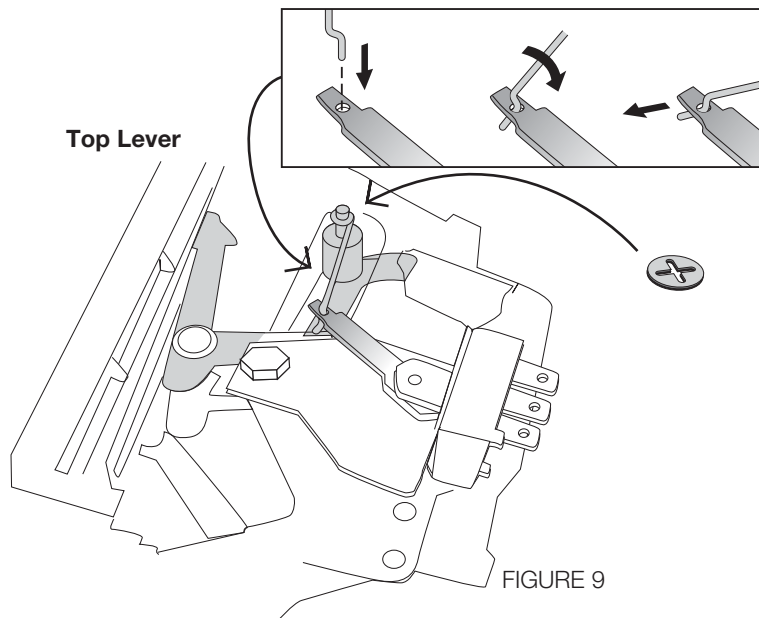

FIGURE 9
- 3) Hook the wire through the hole in the blower switch lever, and then route over the control post. Use the push nut to hold the connecting wire (see figure 9).